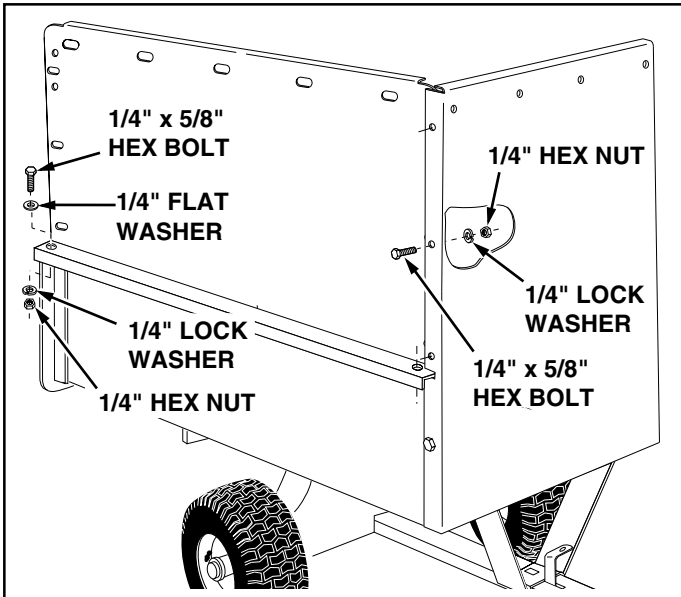

FIGURE 11
20. Place a side panel on top of the cart bed flange, inside the lip of the front panel. Fasten the side panel to the front panel using three 1/4" x 5/8" hex bolts, 1/4" lock washers and 1/4" hex nuts. Fasten the side panel to the cart bed flange using two 1/4" x 5/8" hex bolts, 1/4" flat washers, 1/4" lock washers and 1/4" hex nuts. **Tighten**. See figure 11. Repeat on other side.